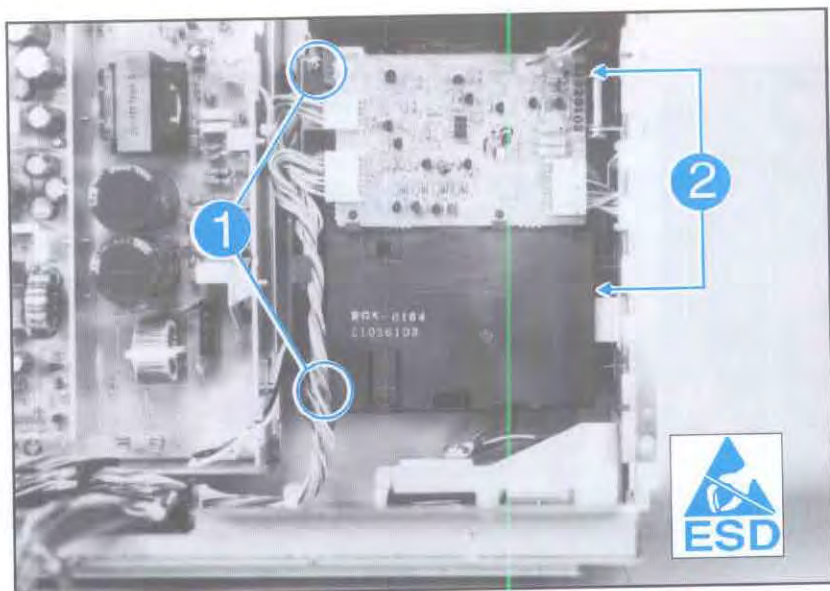

Figure 6-21. AC Power Inlet Assembly (continued)
9. Remove the (2) screws securing the AC Power Inlet Assembly (see Figure 6-21, callout 1). *Note that the lower left screw of the AC Power Inlet Assembly has a star washer.* Be certain to replace the star washer in its correct location.
10. Remove the (2) screws (in plastic standoffs) located at the rear of the printer which secure the AC Power Inlet Assembly (see Figure 6-21, callout 2). Remove the AC Power Inlet Assembly.